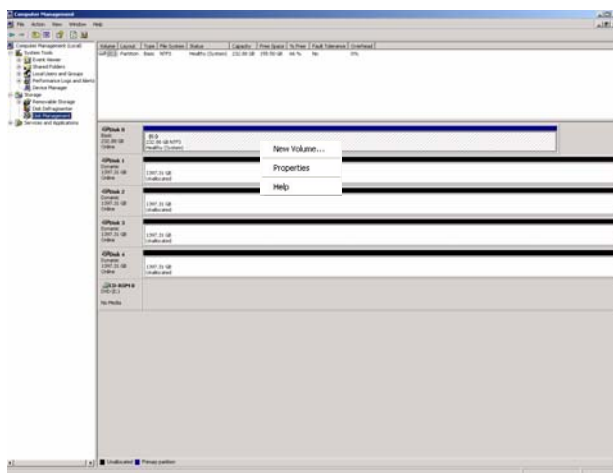

FIGURE 6-21. Computer Management Screen, Showing “New Volume...” Selected.
8. Right-click anywhere within the Disk 1 area, below the black bar, and select “New Volume...” in the pop-up menu. See Figure 6-21.